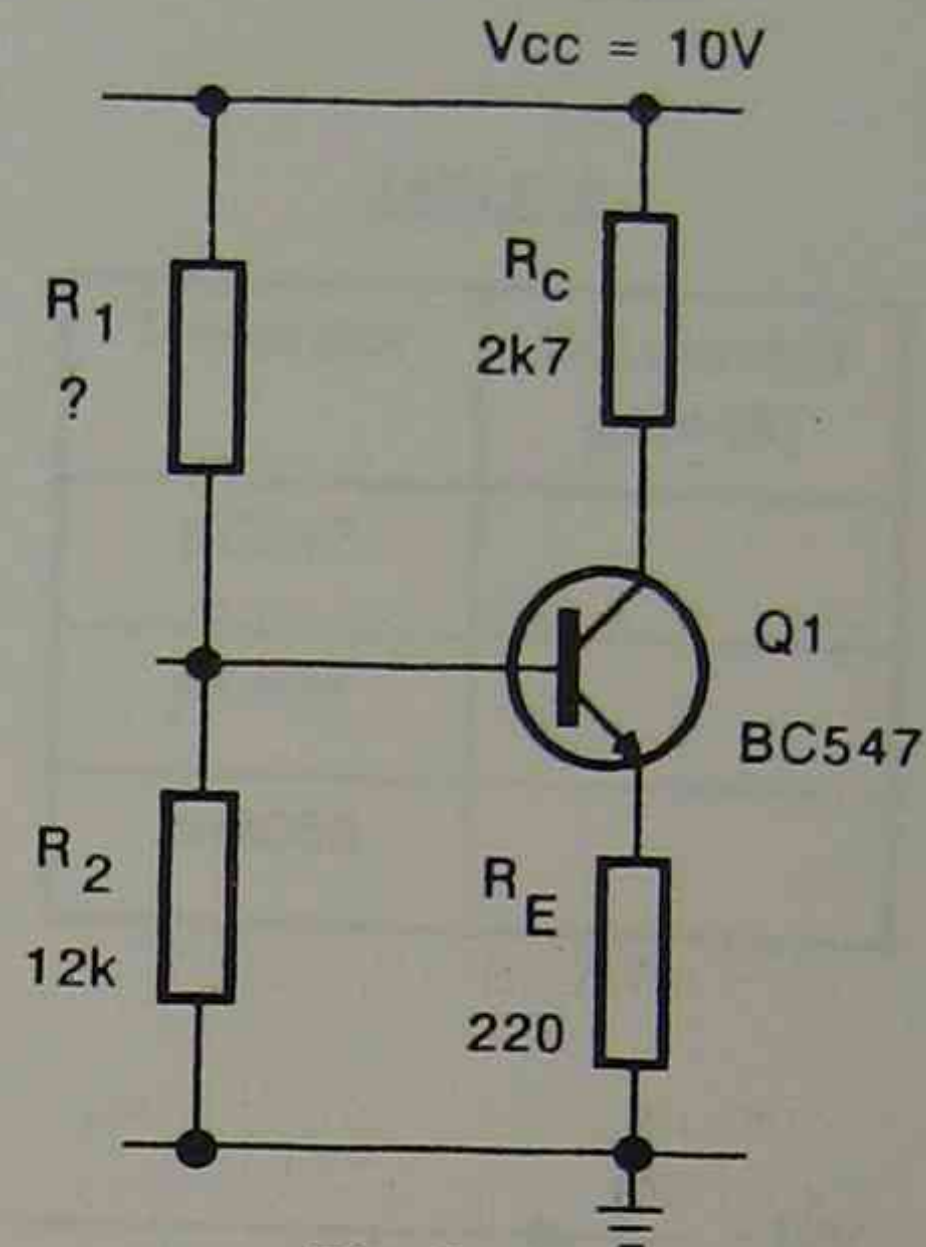

Fig.3
- (a) For the circuit of Fig.3, calculate the value of R_1 required to give a collector voltage of 5V. To do this, use the following steps:
- (b) Construct the circuit of Fig.3 using transistor 2 (middle value of β).